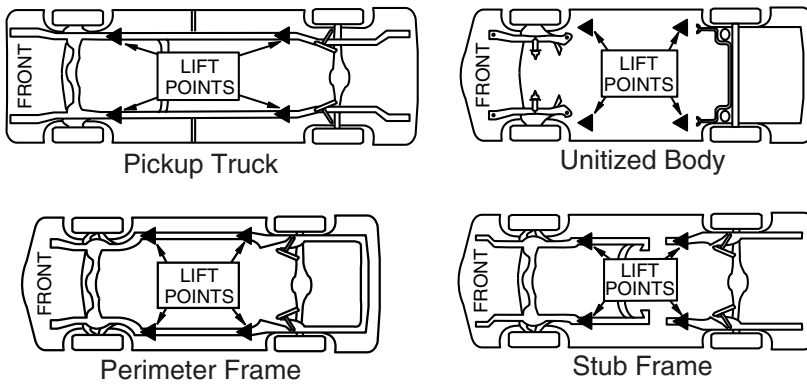

Fig. 2
3. Loading: Swing arms under vehicle and position adapters at vehicle manufacturer's recommended lift points, Fig. 2. Use intermediate, high step, or optional adapters for under body clearance when required.